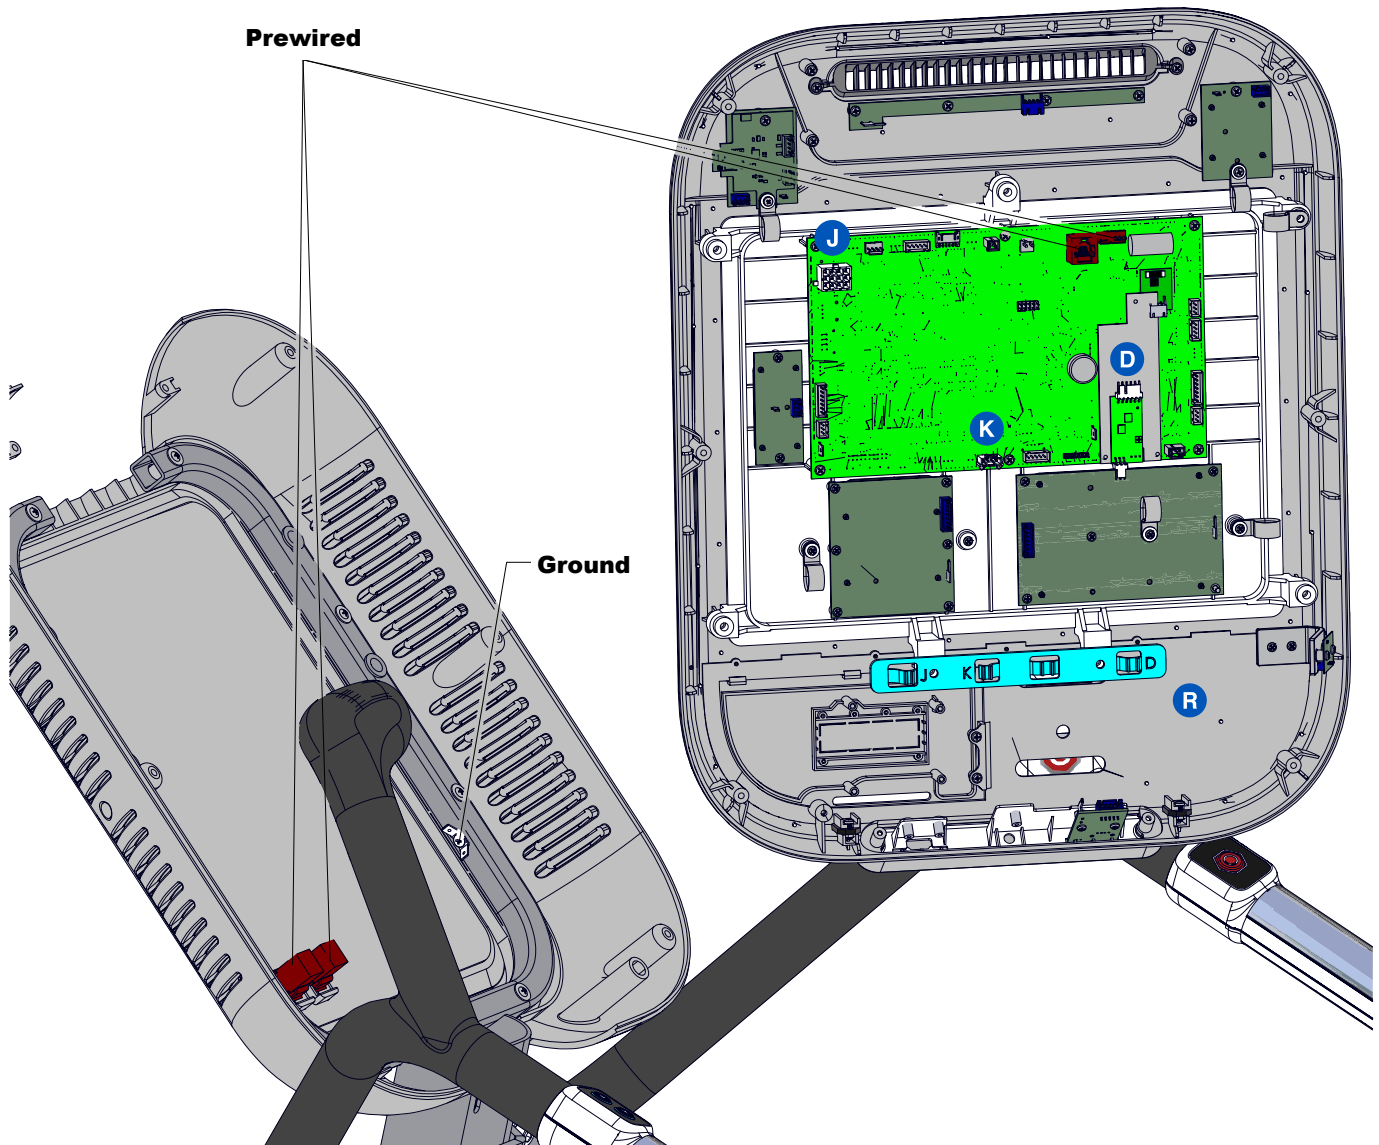

Fig. 29
**Note:** the location in Fig. 29 marked as Prewired comes connected in the box. Disconnect prior to installation. Two persons are recommended for ease of installation.
30. Plug the main cable 711-3494 into the location marked **J** in Fig. 29.
31. Plug the heart rate cable 711-4065 into the location marked **D** in Fig. 29.
32. Plug the keypad cable 711-4064 into the location marked **K** in Fig. 29.
33. Route wires through bracket marked **R** in Fig. 29.